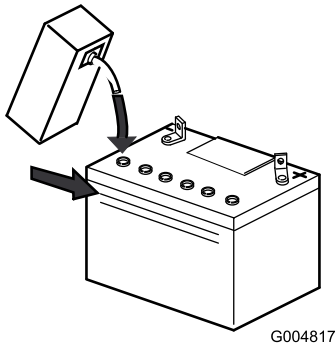

Figure 4
4. Slowly pour electrolyte into each battery cell until the level is up to the upper line on the battery case (Figure 4).